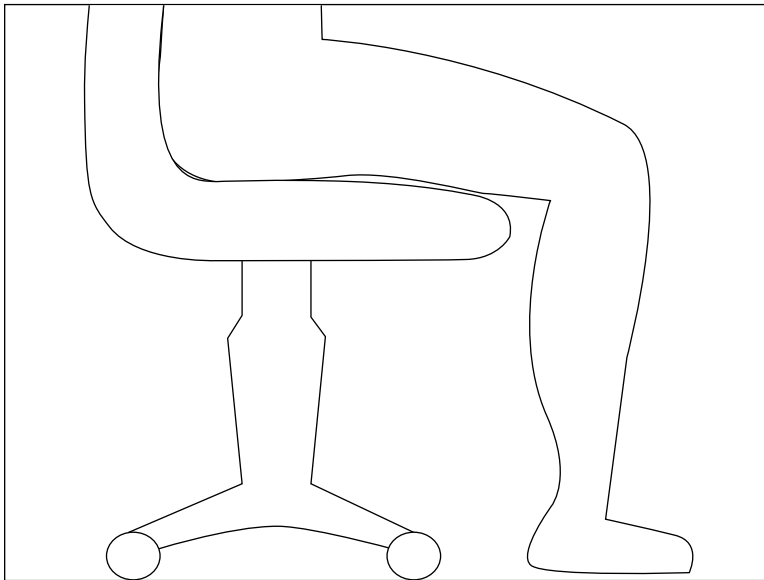

Figure 3-1:
- ✔ Make sure you get a chair with height adjustment and a proper back support. When seated with your feet flat on the floor, your upper legs should be level with the floor. (See Figure 3-1 for a complete visual of the ideal chair fitting.) **Note:** You may need to use a footrest to obtain this position.